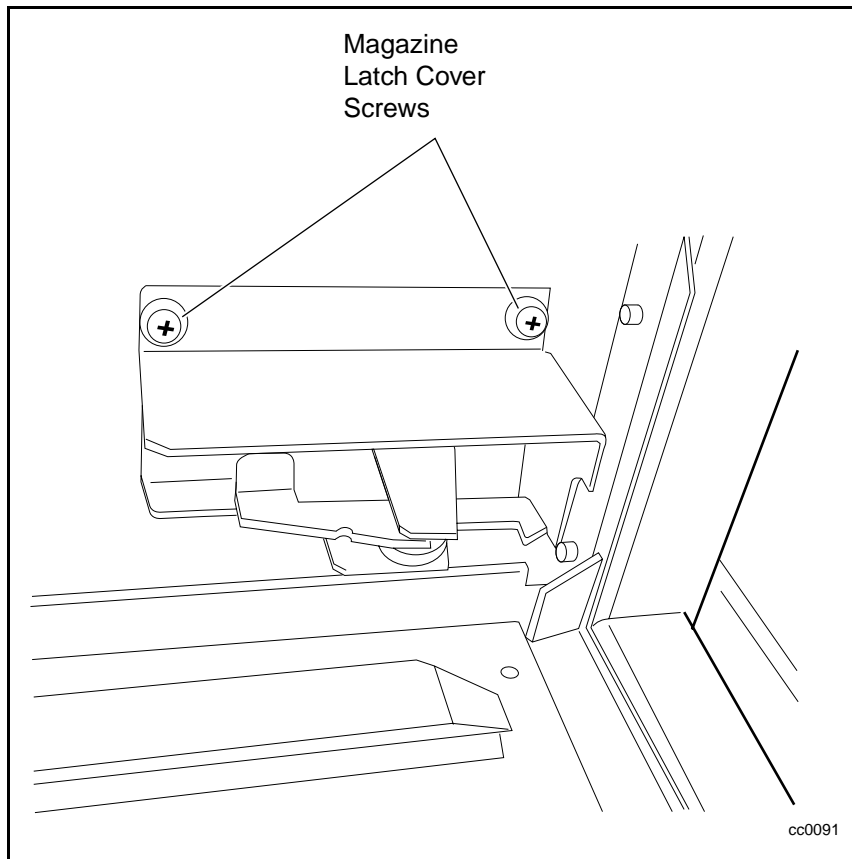

Figure 5-21. Removing the magazine latch cover
2. Remove the two screws that secure the magazine latch cover to the Library chassis (see Figure 5-21).
3. Replace the magazine latch cover (see Figure 5-21).